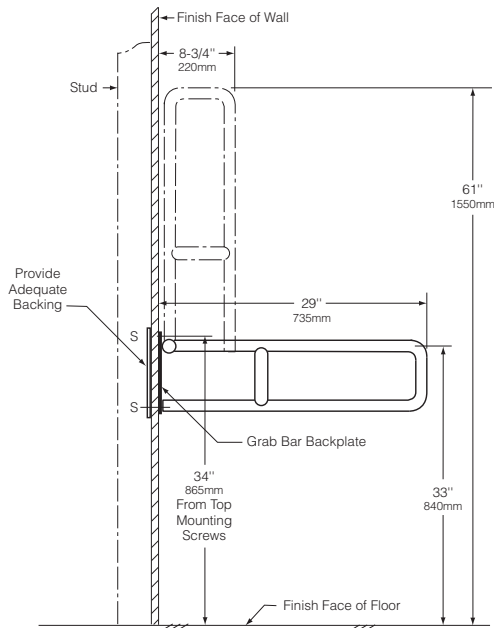

Figure 1
3. Install adequate backing in wall at locations indicated in Figure 1. Allow for either #14 size screws, or in the case of steel backing 1/4-20 stainless steel screws of adequate length (neither are furnished by Bobrick). The steel backing must have a minimum thickness of 3/16" (5mm) and screw holes be drilled and tapped.
1. Use inserts (lead shields or equivalent) for #14 screws (not furnished by Bobrick ) and mount at height indicated in Figure 1 or per local code, using grab bar back plate as template to mark mounting screw hole location.